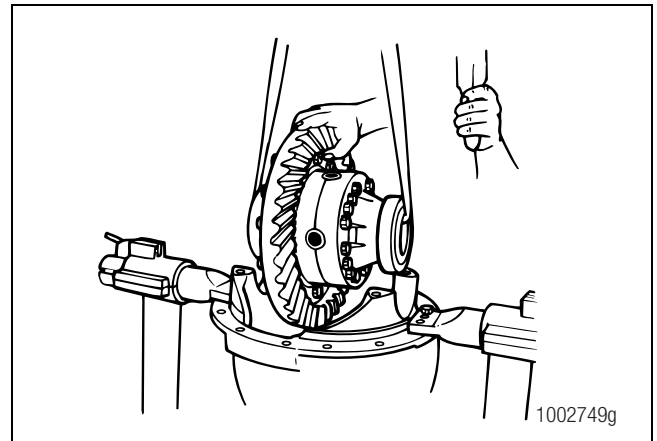

Figure 3.46
7. Use an appropriate lifting device to remove the main differential case and ring gear assembly from the carrier. Figure 3.46.